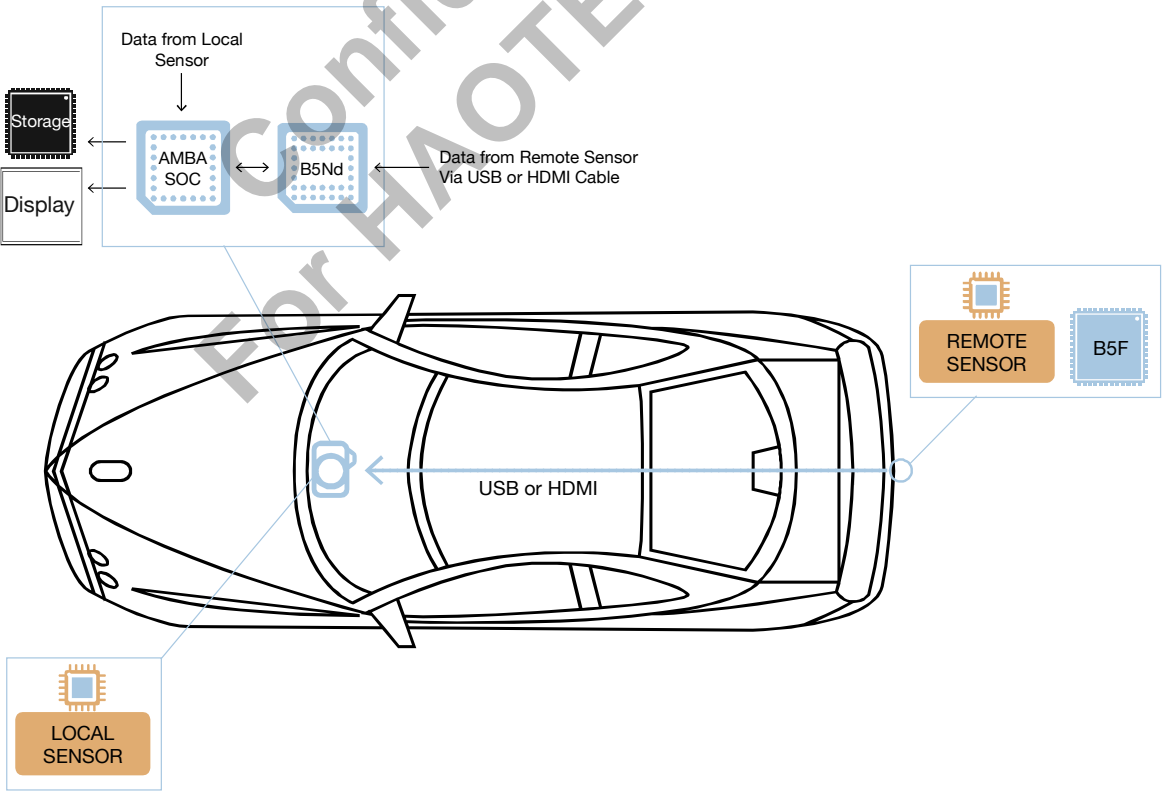

Figure 1-4. A12A25 Automotive Camera Application: Local / Remote Sensor Configuration (B5-Equipped).
2. Inputs from both a local sensor and a remote sensor are sent to the A12A25 SoC (Figure 1-4)